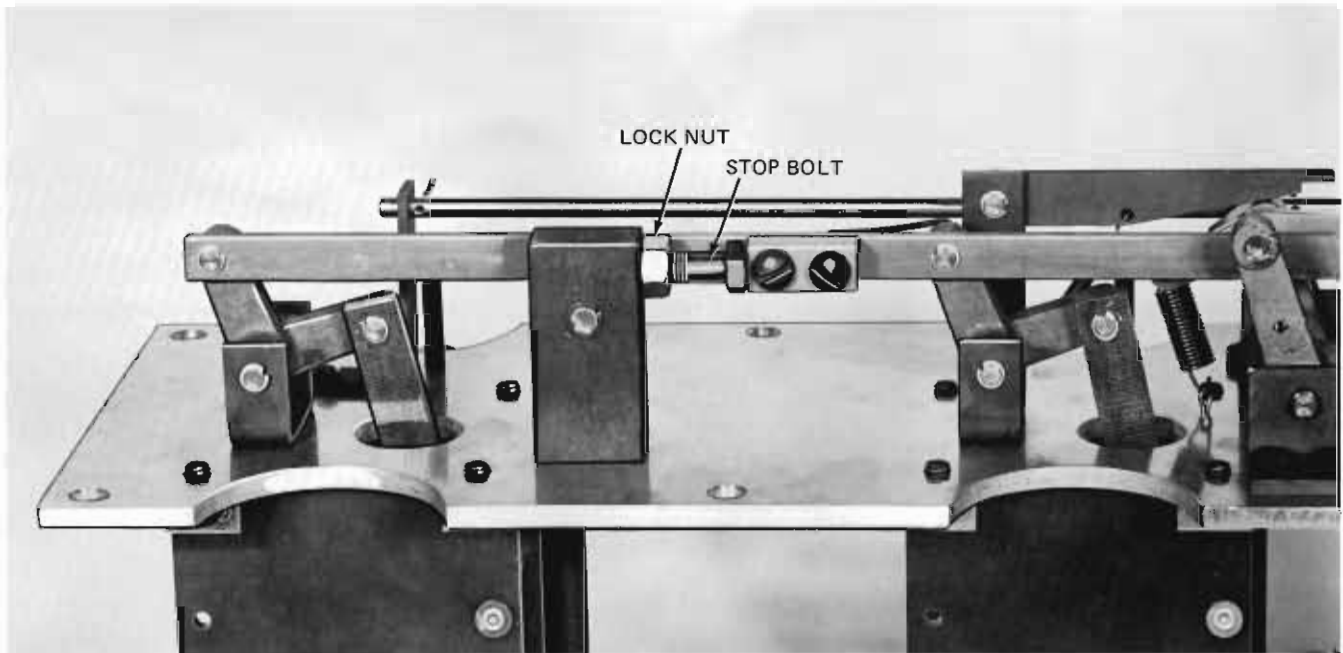

Figure 29
1. Separation between stationary and moving contacts must be about two inches when in the open position. Adjust by means of the stop bolt shown in Figure 29. Tighten locknut when adjustment is completed. This adjustment can be made on an assembled but untanked sectionalizer.